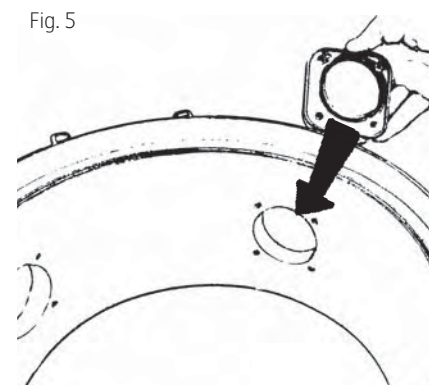

Fig. 5
4. Adapt (move) the suction pipe socket to the new outlet. NB! The socket is marked "Up". Make sure the socket is fitted with the uppermost. Fasten the socket by fitting and tightening the four screws, Fig. 5.